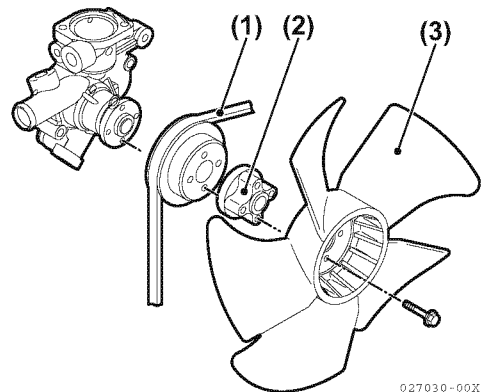

Figure 9-3
Remove the cooling water fan guard (if equipped), cooling fan (**Figure 9-3, (3)**), spacer (**Figure 9-3, (2)**), cooling water pump V-pulley (**Figure 9-3, (1)**), and V-belt.